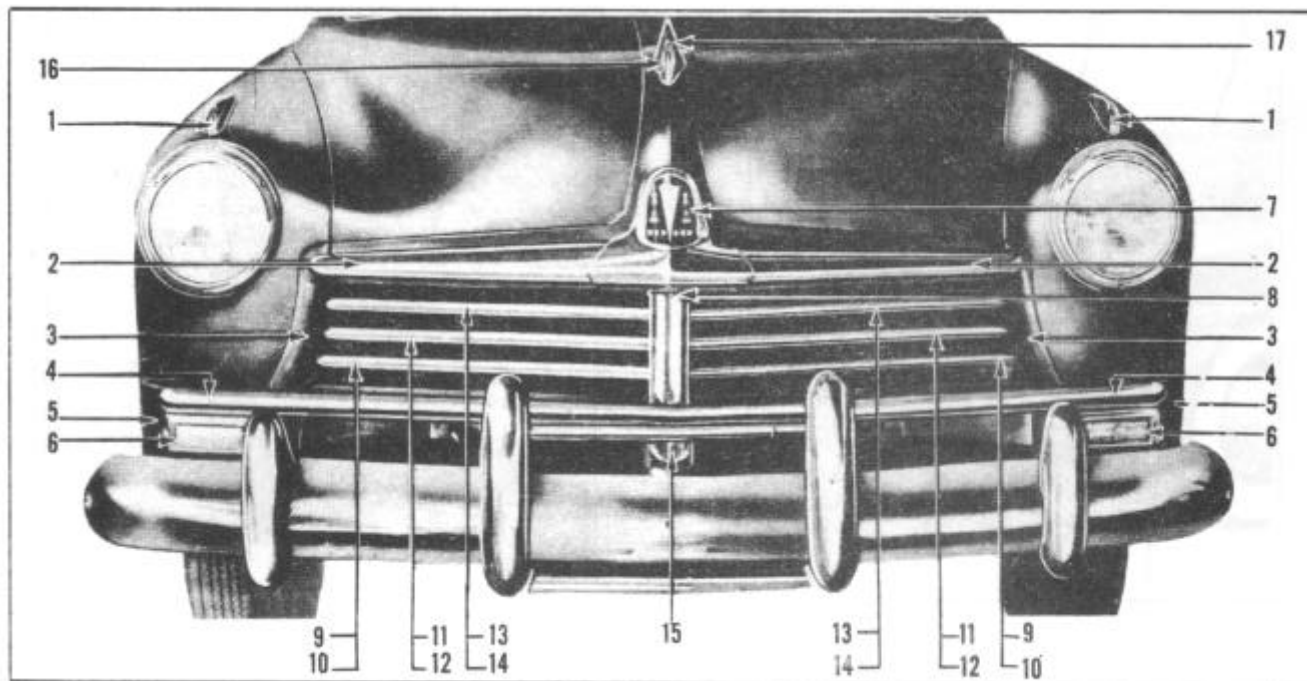

FIGURE 90
1. Remove center support bar moulding (8), Figure 90.
3. Remove one screw from under fender and one screw at grille baffle side supports (3). Remove baffle (14) from car.
2. Remove one bolt (each side) attaching front splash guard (4), Figure 90, (center) to front fender and lower splash guard.
3. Remove two bolts attaching center bar (8), Figure 90, to fender tie panel and to front splash guard.
3. Remove the three bolts, nuts, and shake-proof washers attaching the side support (3), Figure 90, to the radiator mounting channel.
4. Remove three bolts, nuts, and shake-proof washers attaching the side support to the lower front splash guard (4).